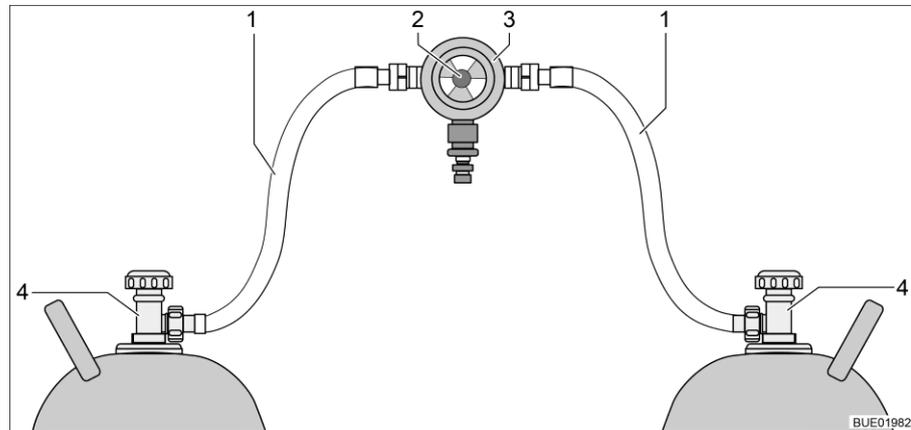
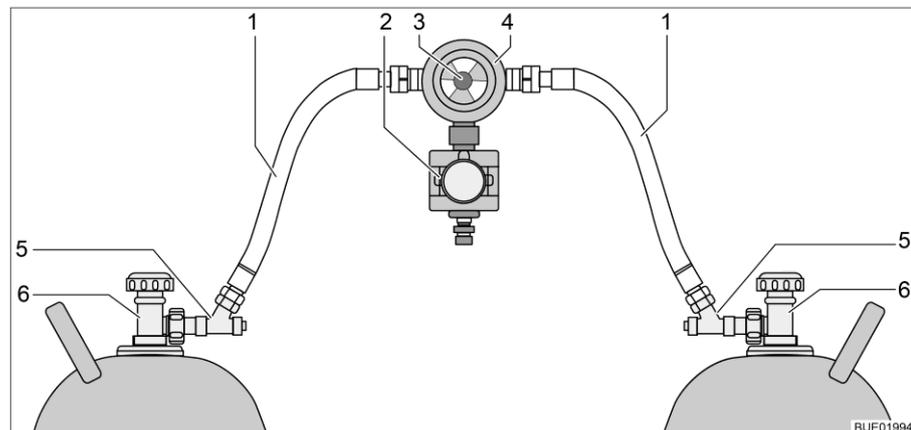

Fig. 102 Gas bottle switching facility
Fig. 103 Gas bottle switching facility with CPU
The gas bottle switching facility consists of a combined gas pressure regulator with reversing valve and indicator (Fig. 102,3). The gas bottle switching facility is installed between the two gas tubes (Fig. 102,1).
The gas bottle switching facility consists of a combined gas pressure regulator with reversing valve and indicator (Fig. 103,4), and an electrovalve (Fig. 103,2). The electrovalve blocks the gas supply to the vehicle in the event of a full braking, an accident, or an unusually great inclined position. The gas bottle switching facility is installed between the two gas tubes (Fig. 103,1) with hose break guards (Fig. 103,5).
Use the knob (Fig. 102,2 or Fig. 103,3) on the gas bottle switching facility to select which of the gas bottles is to be used as a primary bottle and which is to be used as a reserve bottle.
Only the electrical functions can be switched at the operating unit (Fig. 104). The regulator taps on the gas bottles (Fig. 102,4 or Fig. 103,6) must be opened and closed manually.
- Open the regulator taps of the gas bottles (Fig. 102,4 or Fig. 103,6).
- Press the hose break guards (Fig. 103,5) successively for 10 seconds.
- Use the knob (Fig. 102,2 or Fig. 103,3) on the switching facility to select the gas bottle which is to be the primary source of gas (primary bottle). Always turn the knob as far as it will go.
- Close the regulator taps of the gas bottles (Fig. 102,4 or Fig. 103,6).